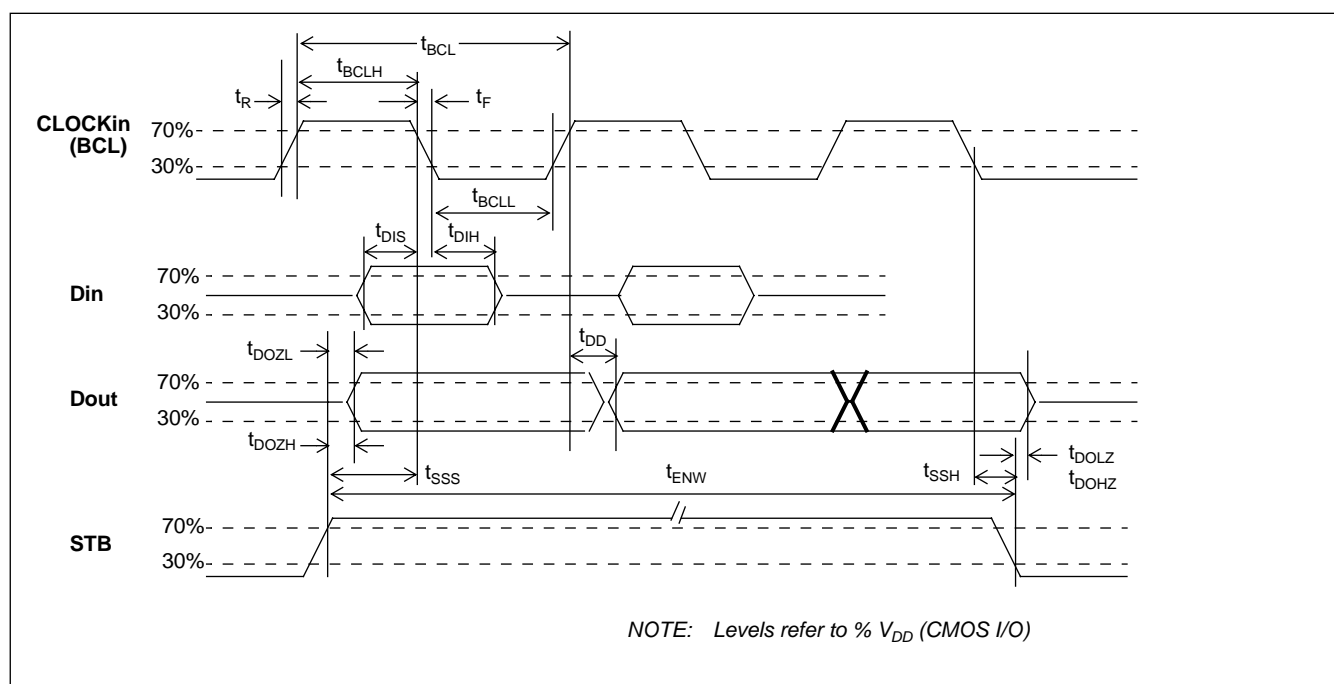

Figure 5 - SSI Synchronous Timing Diagram
**AC Electrical Characteristics† - SSI BUS Synchronous Timing (see Figure 5)**